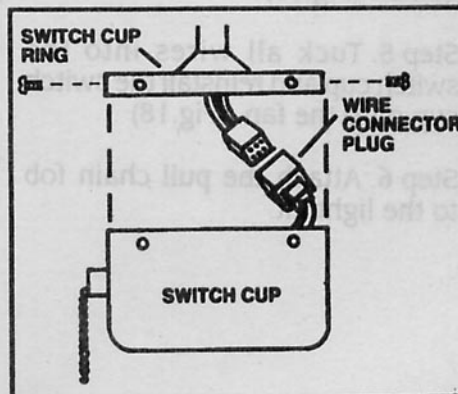

FIG. 16
Step 1. Remove screws in switch cup ring. While holding the switch cup under your fan, snap the wire connector plugs together. (Figure 16). Then push the switch cup up to the switch cup ring and position so holes line up. Reinstall screws and tighten.